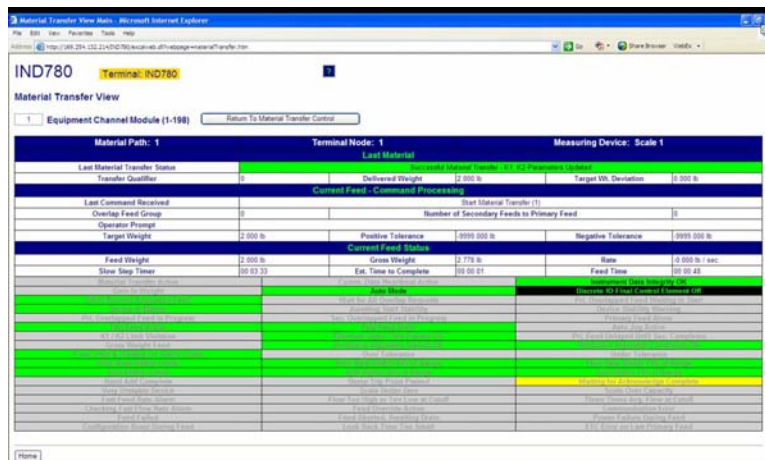
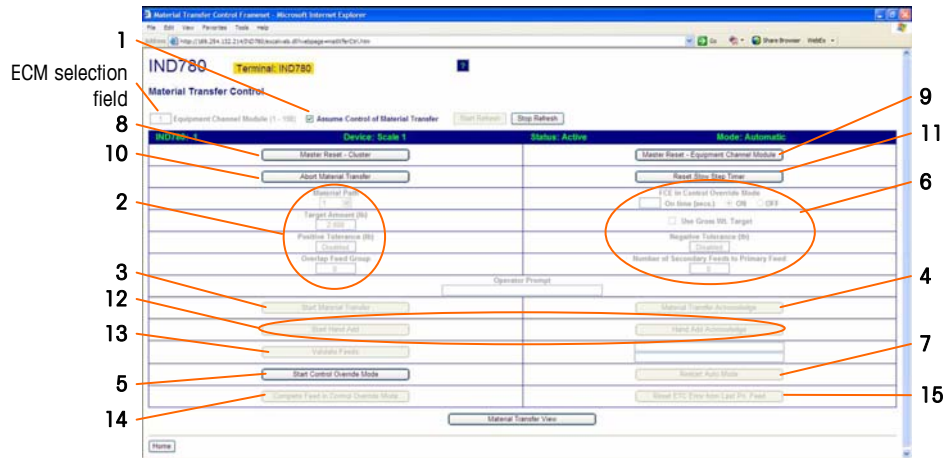

Figure 2-46: Material Transfer View
Figure 2-47: Material Transfer Control
The next Q.iIMPACT web page option is the Material Transfer view (Figure 2-46). In the field at top left, enter the Equipment Channel Module (Scale, Flow Meter or Storage Scale) to view. Like the PAC Parameters page, the Material Transfer page displays status and results for the selected Equipment Channel Module (ECM). Access the Material Transfer Control view (Figure 2-47) by clicking the button to the right of the ECM entry field, or return to the Index view by clicking the Home button at bottom left.
The final web page unique to the Q.i application on the IND780 Terminal is the Material Transfer Control view (Figure 2-47).
Figure 2-47 shows the system in Automatic Mode. This view is particularly useful during startup and commissioning. From here, it is possible to perform a material transfer independent of the host PLC or DCS control system. All the necessary parameters can be entered and the transfer started.
Enter the Equipment Channel Module (ECM) number for the material transfer. The ECM can be a Scale, a Flow Meter or Storage Scale. Next, check the **Assume Control of Material Transfer** box (# 1, in Figure 2-47). Enter the desired Material Path, target amount and, optionally, the tolerances (2).